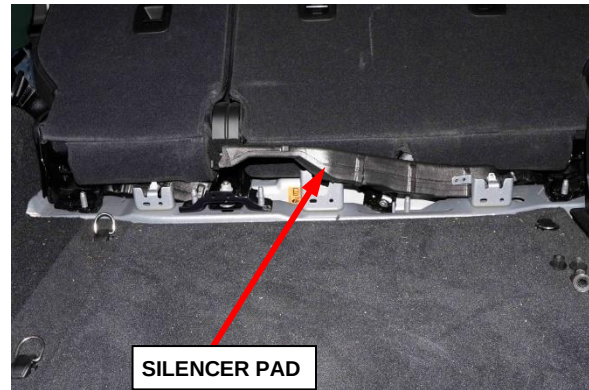

**Figure 33 – Silencer Pad**
35. Remove silencer pad (Figure 33).
32. Install the silencer pad (Figure 33).